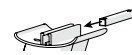

Figure 2
3. Slide the rear stabilizer attachment bar **10** into the slot in the bike frame (Figure 2).
3. Slide the front stabilizer attachment bar **10** into the slot in the bike frame (Figure 2).